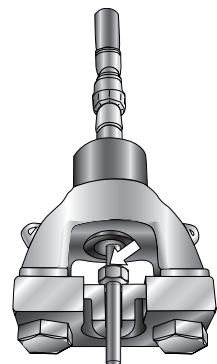

Figure 46
- Close the pressure relief valve on the side of the hand pump. Pump the hand pump until the ram reaches a positive stop. At this point an increase in resistance of the handle will be felt and the nut will bottom against the shoulder of the body die (Figure 46).